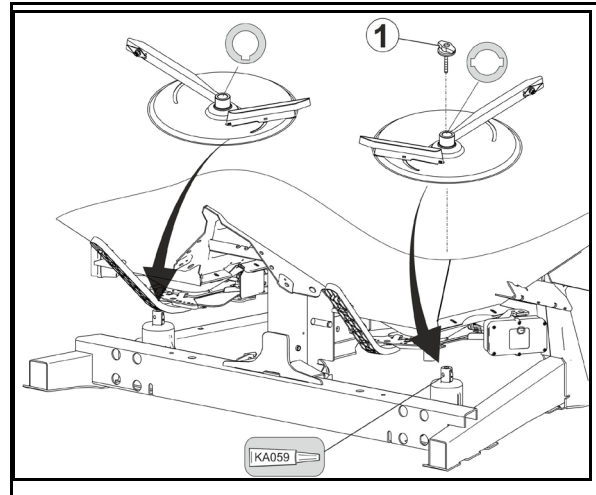

Fig. 68
7. Take the calculating disc rule for the calibration kit. On the scale (Fig. 68/2) for collected quantity [kg], look for value 17.5 (A) and align with position **K** of coloured scale (Fig. 68/3).
8. Look up the required spread rate (400 kg/ha) (B) on the scale for the spread rate (Fig. 68/1) and read off the slider position **23** (C).